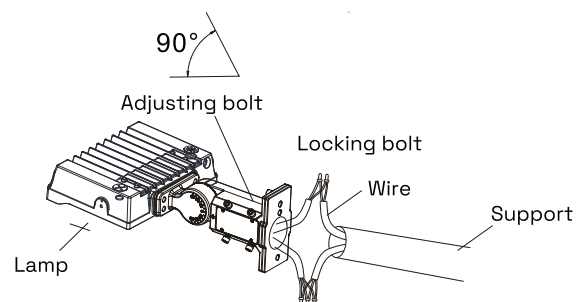

Fig 4.2
Step 2: Loosen the fur bolts on A&D bracket, connect the wires correctly, and pull the wires into the poles. Figure 4.2
Notice: adjustable angle is 0-90° Figure 4.2